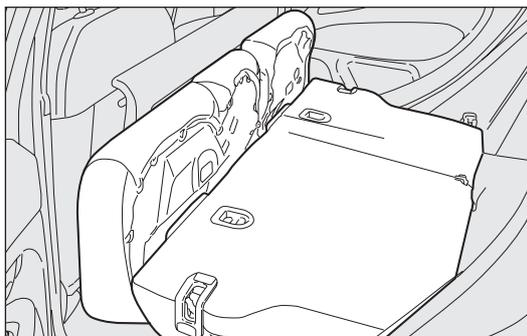

fig. 95
### Full extension fig. 95
- lift handles A and B-fig. 95 to release the backrests and guide them down onto the cushion.
## Repositioning the rear seat fig. 95